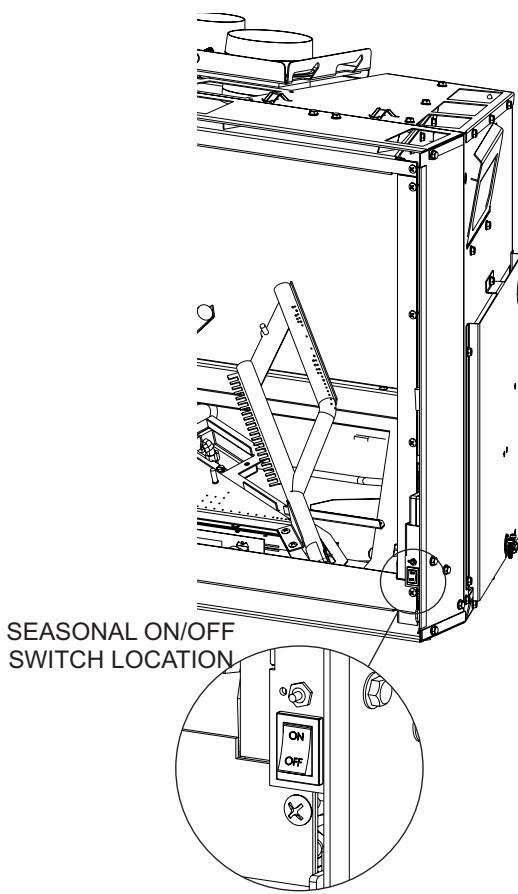

Figure 29
1. At the end of the heating season turn off the fireplace insert to prevent accidentally starting. Remove the barrier screen and locate the switch at the lower right. Push the switch to the OFF position. **See Figure 29.** Replace the barrier screen.